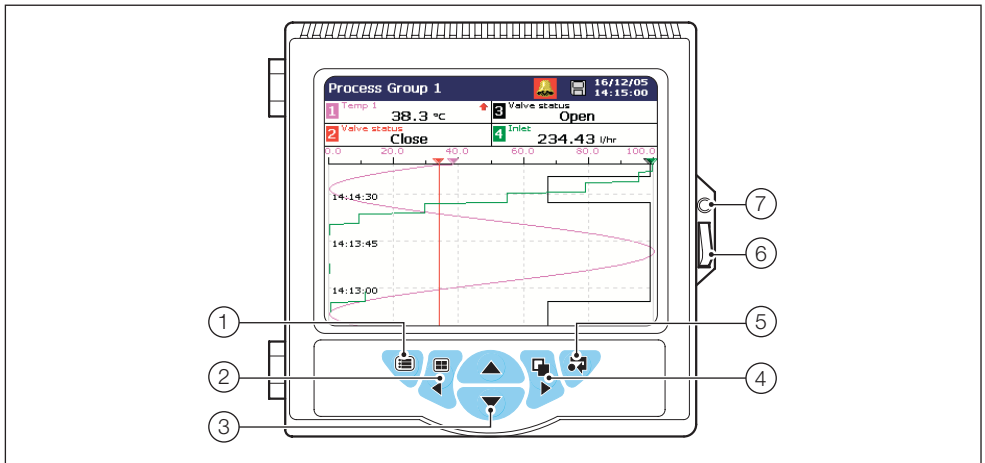

Fig. 4.1 Operator Keys and Door Features
4.2 Operator Keys and Door Features – Fig. 4.1
Referring to Fig. 4.1, operator keys and door features are located as follows: